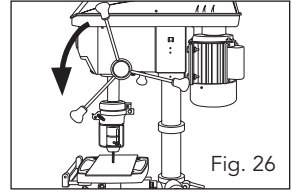

Fig. 26
1. Turn the feed handle (8) to move the drill chuck downwards until the tip of the drill bit reaches the workpiece (Fig. 26).